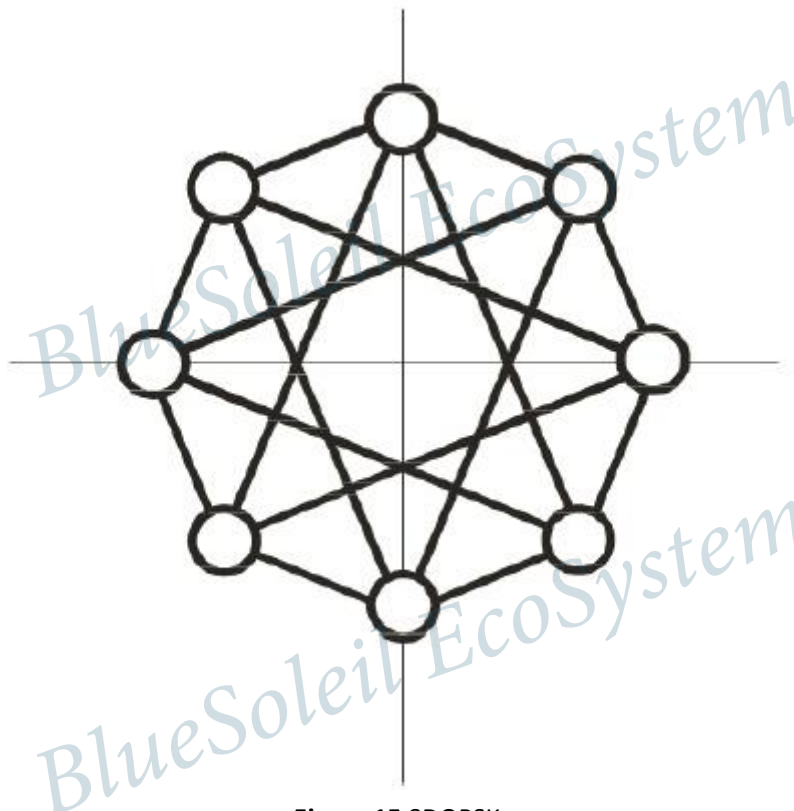

Figure 15 8DQPSK
- 8-state Differential Phase-Shift Keying. Refer to Figure 15 below.